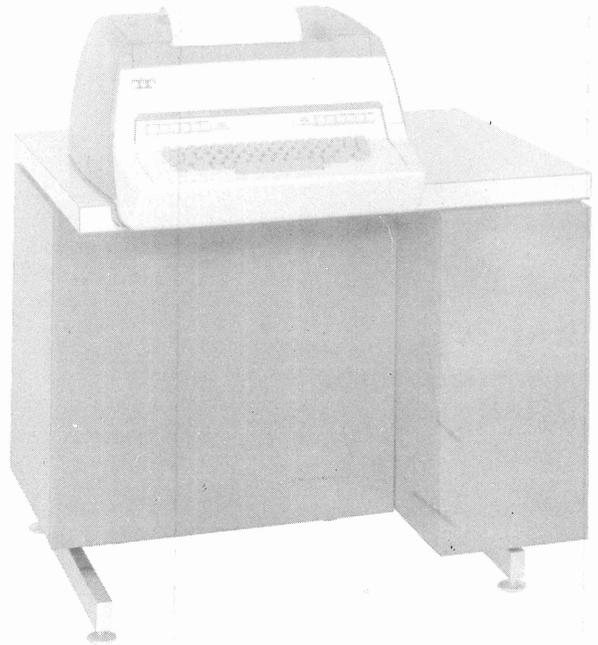

Figure 1 - 37 KSR Teletypewriter Set
1.01 This section is issued to provide actual and schematic wiring diagrams and detailed circuit description information for the 37 Keyboard Send-Receive (KSR) Teletypewriter Set (Figure 1).